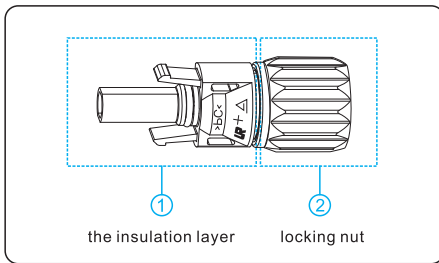
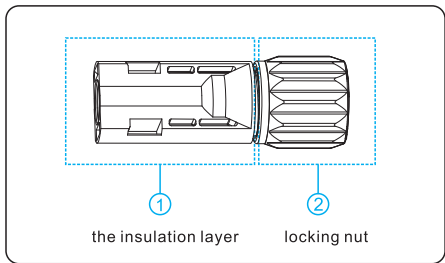

Figure 5.5 Positive connector compositions
Figure 5.6 Negative connector compositions
- Connectors of PV Strings: Positive and negative DC input connectors are used, as shown in Figure 5.5 and Figure 5.6.